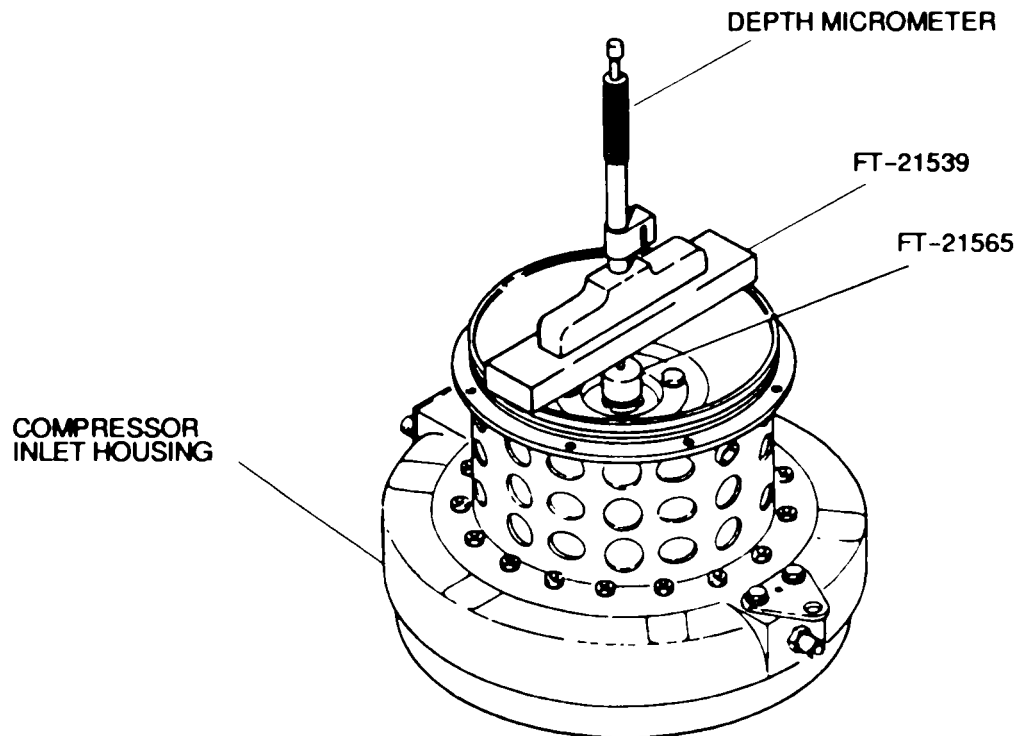

Figure 8-16. Obtaining Reading for Turbine Wheel Shaft Stretch for Final Assembly Using Fabricated Tools FT-21539 and FT-21565
(28) Place fabricated tool (FT-21565, Figure 8-16) on top of turbine shaft Place fabricated tool (FT-21539) on top of compressor inlet housing Center hole over fabricated tool (FT-2156) Take a base reading from the top of shaft to top of fabricated tool (FT-21539) using depth micrometer Note the reading. The shaft must be stretched 0.007- 0.009 inch (0.018-0.023 cm) from the original reading.
(29) Tighten nut and remeasure shaft length Repeat procedure until 0.007-0.009 inch (0.018-0.023 cm) stretch has been achieved